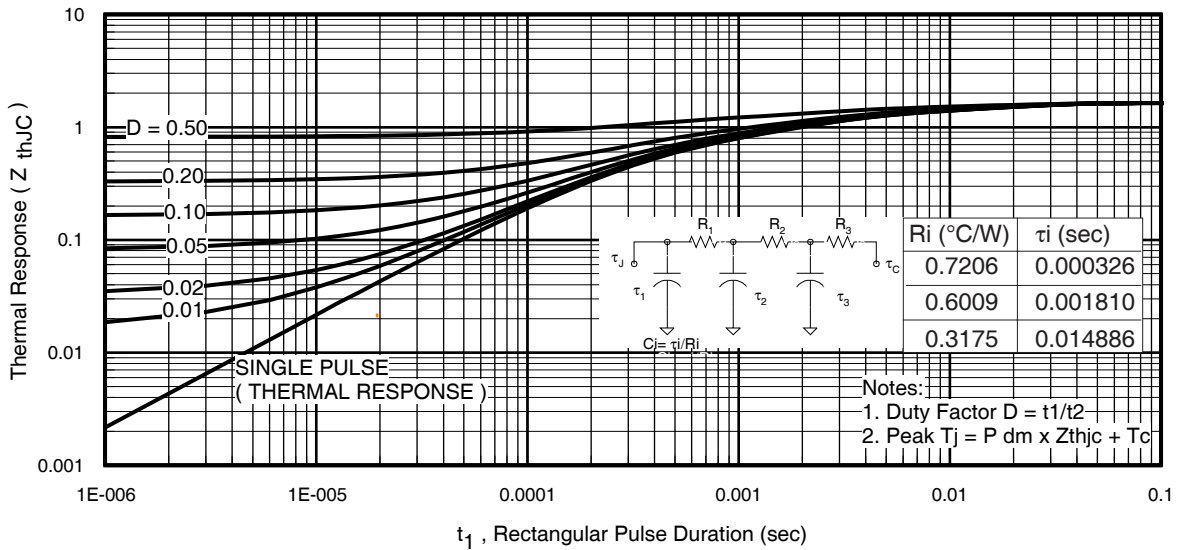
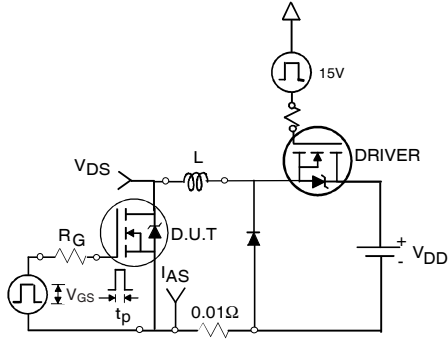

Fig 11. Maximum Effective Transient Thermal Impedance, Junction-to-Case
Fig 12a. Unclamped Inductive Test Circuit
3. Equation below based on circuit and waveforms shown in Figures 12a, 12b.
$Z_{thJC}(D, t_{av})$ = Transient thermal resistance, see figure 11)
- ① Repetitive rating; pulse width limited by max. junction temperature. (See fig. 11).
- ② Limited by T_{Jmax} , starting $T_J = 25^\circ\text{C}$, $L = 0.11\text{mH}$, $R_G = 25\Omega$, $I_{AS} = 37\text{A}$, $V_{GS} = 10\text{V}$. Part not recommended for use above this value.
- ③ Pulse width $\leq 1.0\text{ms}$; duty cycle $\leq 2\%$.
- ④ C_{OSS} eff. is a fixed capacitance that gives the same charging time as C_{OSS} while V_{DS} is rising from 0 to 80% V_{DSS} .
- ⑤ Limited by T_{Jmax} , see Fig.12a, 12b, 15, 16 for typical repetitive avalanche performance.
- ⑥ This value determined from sample failure population. 100% tested to this value in production.
- ⑦ When mounted on 1" square PCB (FR-4 or G-10 Material). For recommended footprint and soldering techniques refer to application note #AN-994
- ⑧ R_θ is measured at T_J approximately 90°C